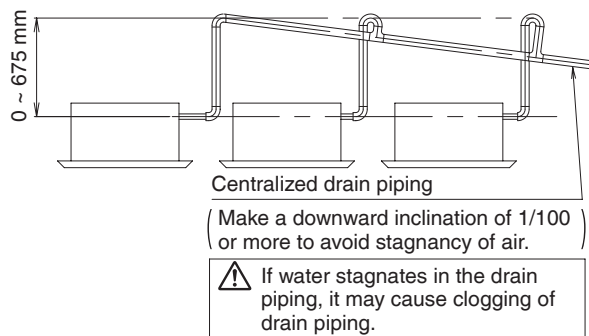

Fig. 17
- To avoid the attached drain hose (1) getting excessive force, do not bend nor twist it. It may cause water leakage.
- In case of centralized drain piping, carry out piping work according to the procedure shown in the following **Fig. 17**.